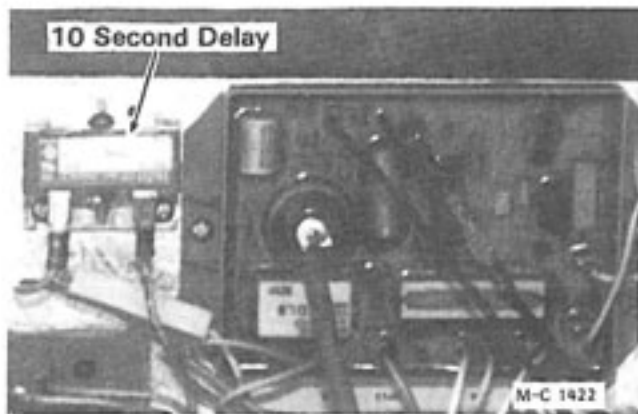

Figure 35
2. Close the gas main hand valve for each burner (handle 90° to the piping), see Figure 35.
3. Look for loose, burned or broken wires, poor or corroded connections. Check the 10 second delay, see Figure 35, and the ignition switch with a voltage tester.